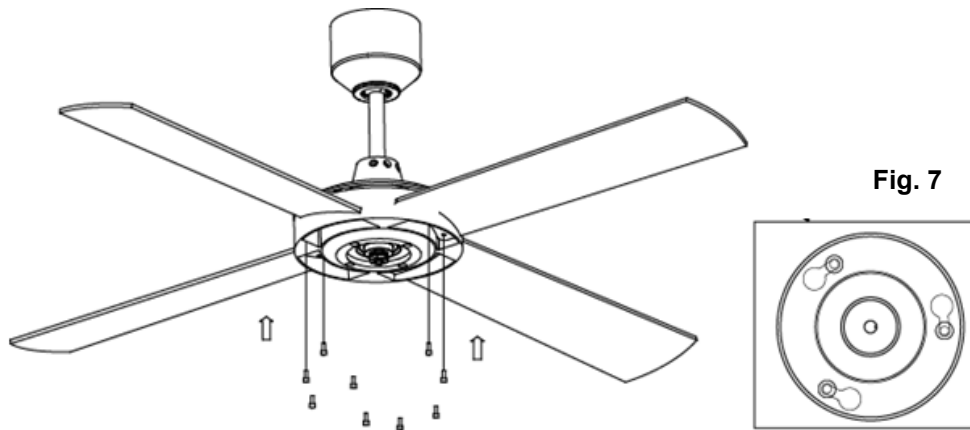

Fig. 7
- Insert the blades through the side slot of the motor and align with the 3 holes. If the holes do not align, the blade is upside down. The blade should fit securely and the screws should slot into the blade screw holes. Insert the screw driver with the screw through the key hole of the lamp bracket. Secure the blades with 3 blade screws. Ensure all screws are tightened evenly to reduce the chance of warping or unbalancing. Repeat this process for all blades. **Fig. 7**